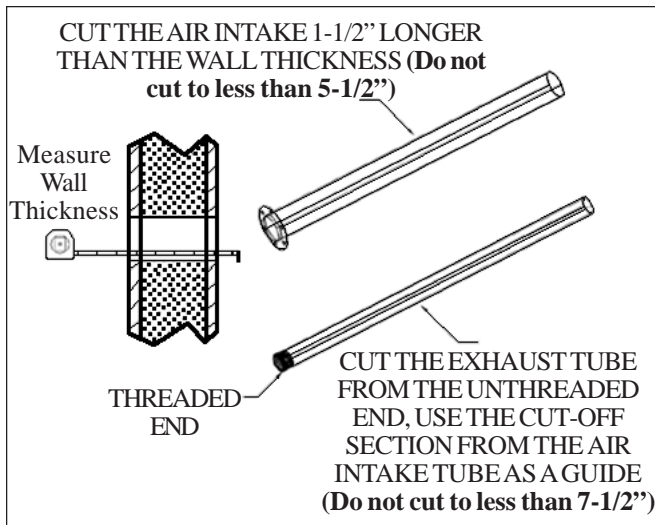

FIGURE 5
- b) Using a measuring tape, measure the thickness of the wall. See Figure 5.